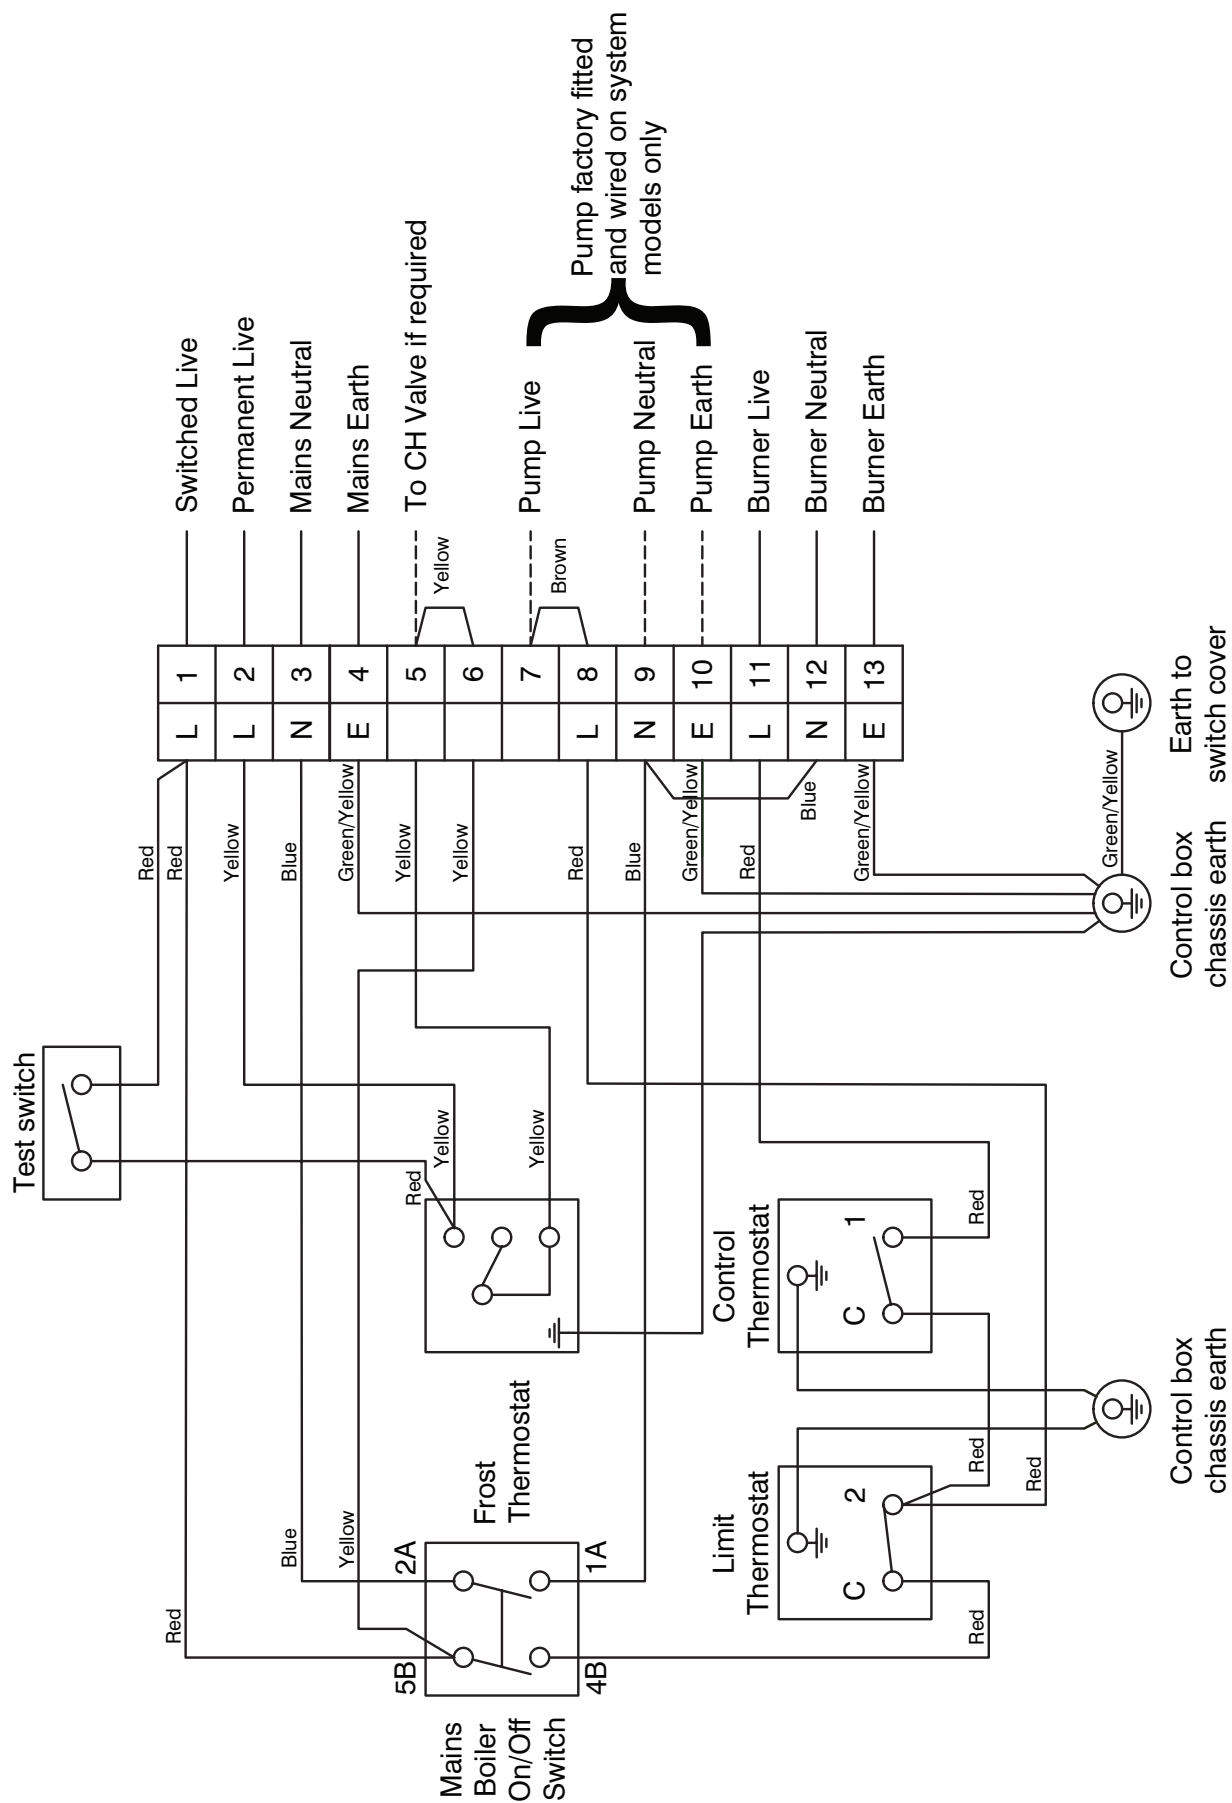

Figure 8-2: Vortex Module control panel wiring diagram
Refer to Figure 8-2 for control panel wiring diagram for all Vortex Pro External models.
7. Make the remaining required connections to the control panel, as detailed in Figure 8-2. Tighten the cable clamp and refit the front of the control panel and terminal block cover, taking care not to trap any wires.